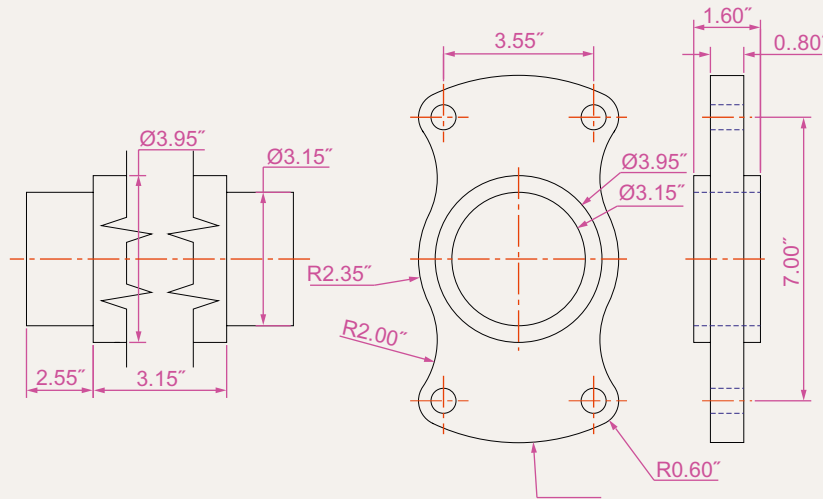
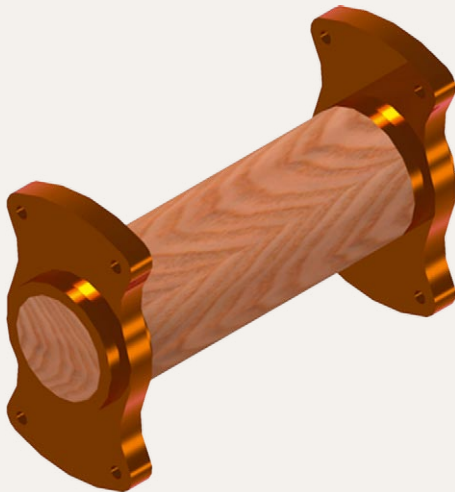

Fig. 19.18 Exercise 1 – details of shapes and sizes
Fig. 19.19 Exercise 1
1. Working to the shapes and sizes given in Fig. 19.18, construct an assembled 3D model drawing of the spindle in its two holders, add lighting and apply suitable materials and render (Fig. 19.19).